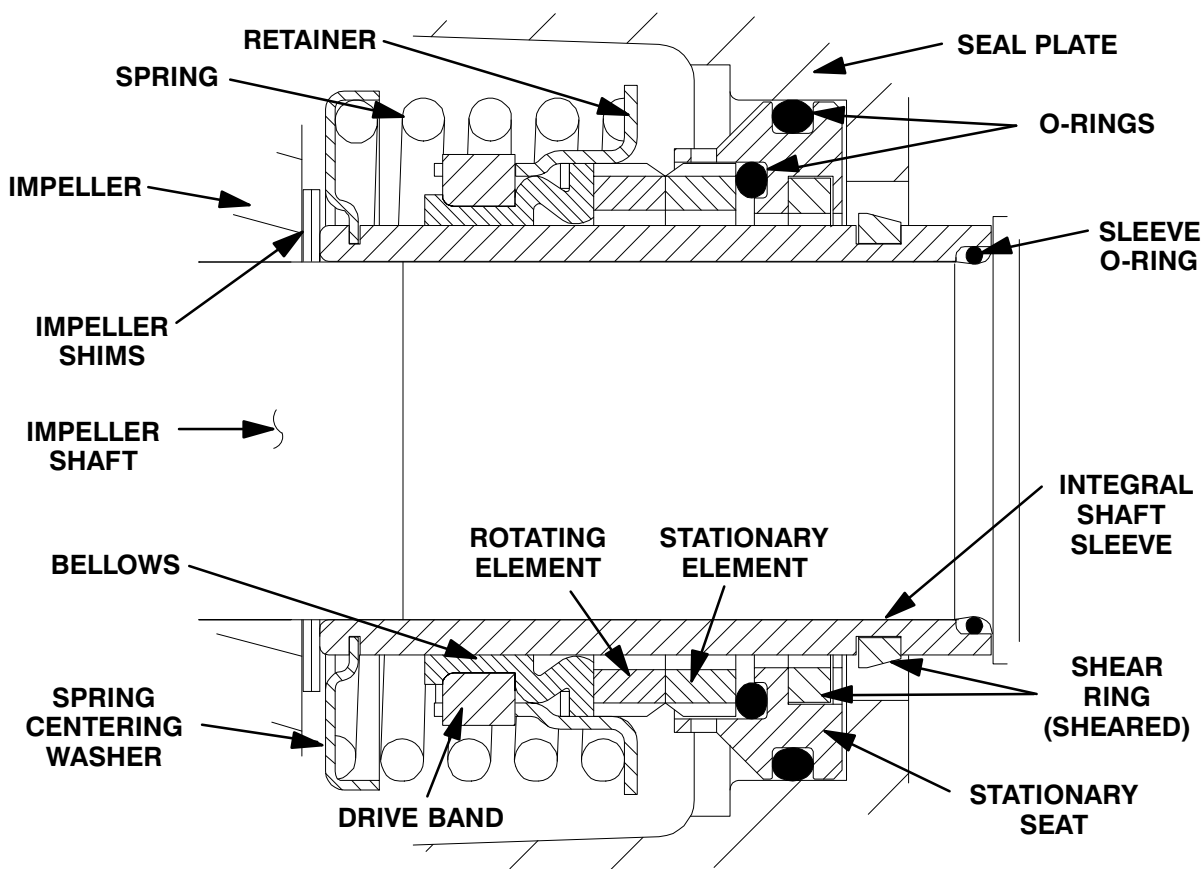

Figure 9. Cartridge Seal Assembly
To ease installation of the seal, lubricate the shaft sleeve O-ring (29) and the external stationary seat O-ring with a very **small** amount of light lubricating oil. See Figure 9 for seal part identification.